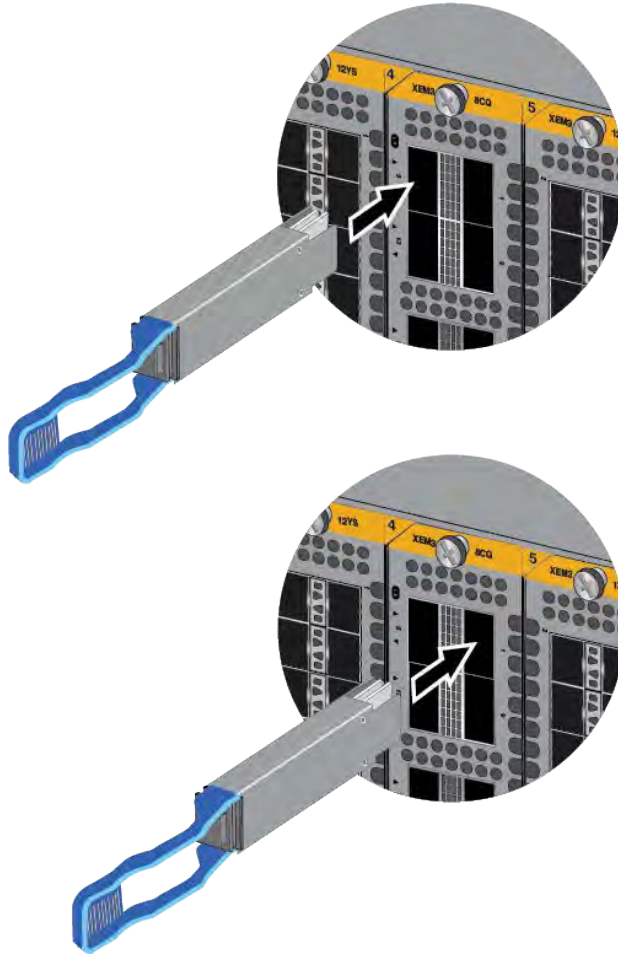

Figure 51. Examples Installing Fiber Optic Transceivers in the XEM3-8CQ Module
- ❑ XEM3-8CQ Module - For all ports, orient the transceiver with the handle on the right side. Slide the connector into the slot until it clicks into place. Figure 51 illustrates installing QSFP4 transceivers in the XEM3-8CQ Module.